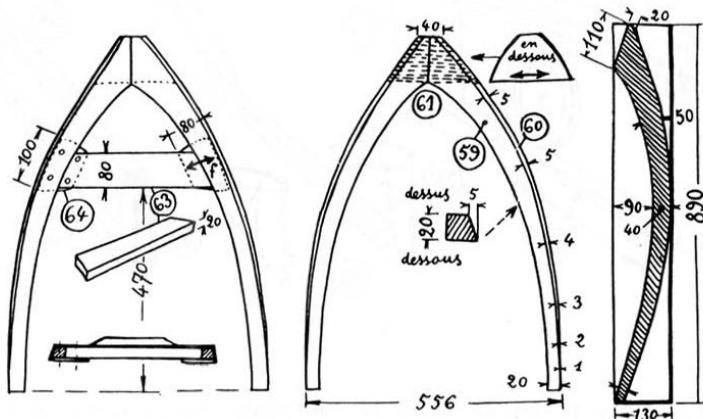

Figure 3.11: The “lyre”
The two ends of the flanks are brought together by a "lyre" ⑤0 cut with a saw from a 20mm hardwood plank (fig. 3.11).